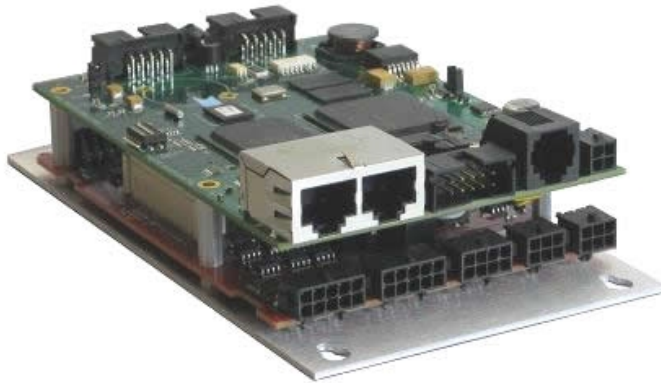

Figure 2-2: Guidance 1000A Controller
The two (2) motor power amplifier boards (the 4ALV4A or 4ALV4B) are very similar. The "A" version was designed for use in general motion control applications and includes easy-to-use readily available Amp Micro Mate-N-Lok connectors. The "B" version was specifically designed for use in the PreciseFlex™ 400 robot and includes special "Flat Flexible Cable" (FFC) connectors. FFC is a miniaturized form of ribbon cable that can be rolled in a small diameter "clock spring" to permit transmission of power and signals through small rotary axes. Due to the small pin and conductor sizes permitted for FFC, the "B" amplifiers have a somewhat reduced current rating compared to the "A" amplifiers. Consequently, most customers will be primarily interested in the G1000A (Figure 2-2) line of controllers.
Figure 2-2 shows the Guidance 1000A, which includes the 4ALV4A motor power amplifier (lower board) that has Amp Micro Mate-N-Lok connectors.